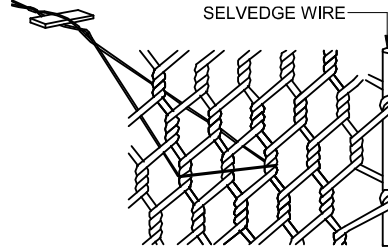
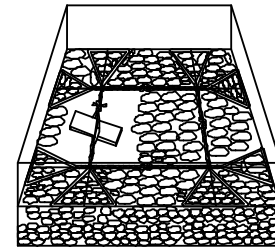
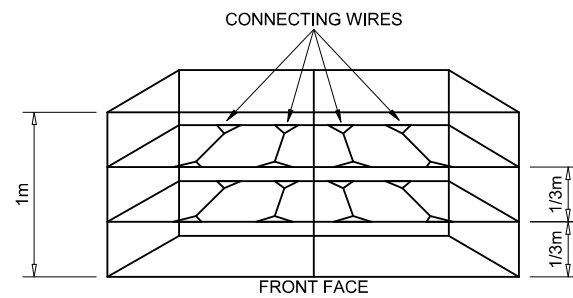
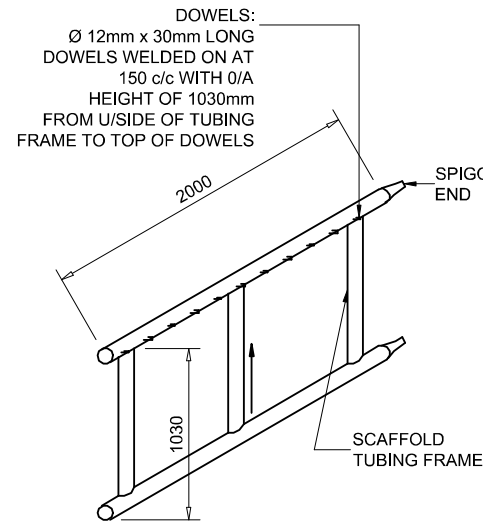

FIGURE 9
FIGURE 10
FIGURE 8
FIGURE 11
4. TO AVOID BULGING ON THE VISIBLE SIDE OF THE STRUCTURE, FILL ALL THE OUTSIDE BOXES IN STAGES (1.0m HIGH BOXES IN THREE LEVELS AND 0.5m HIGH BOXES IN TWO LEVELS) WITH HORIZONTAL BRACING IN BETWEEN (FIGURE 8). FIX THE BRACING WIRES IN THE GABION BOX DIRECTLY ABOVE THE STONE LEVEL MAKING SURE THE WIRE PASSES ROUND AT LEAST TWO MESH WIDTHS AND "SPANISH" WINDLASS THE BRACING WIRES TO KEEP THE FACE EVEN AND FREE FROM BULGING (FIGURE 9). BRACING IN BOTH DIRECTIONS SHOULD BE USED IN GABIONS AT CORNERS OF STRUCTURES (FIGURE 10). AS AN ADDITIONAL MEASURE, SCAFFOLD PLANKING AS SHUTTERING ALONG THE FRONT FACE OR A PRE-FABRICATED SCAFFOLD TUBING FRAME SYSTEM CAN BE USED (FIGURE 11).